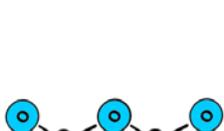

Figure 5
- B_2O_3 – chemical formula for boron oxide. Also used as the chemical formula for glassy state borate. Composed of two boron atoms and three oxygen atoms in a zig-zag formation (in non-glassy state). In glassy state, arranges into the trigonal, tetrahedral, and boroxol ring formations while still retaining the chemical name. (Figure 5)